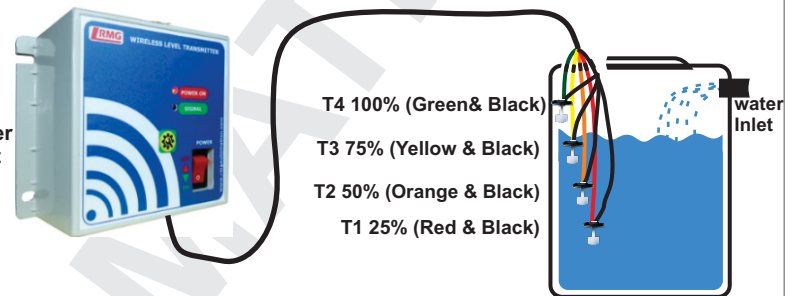

Figure5: magnetic float sensor connection
Step 7: Now power off the controller and transmitter unit. **Contact type sensor connection:** Take the sensors and cut them according to the levels of the tank and join them with the sensors lines of transmitter as per color coding. (Refer figure5).
Magnetic float sensor connection: These sensors has 2 wires. Use any one wire in each sensor as common. Other wire left in each can be used for levels. (Refer figure5).